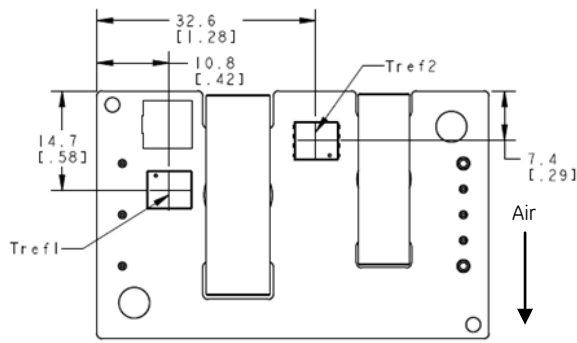

Figure 13. T_{ref} Temperature Measurement Location for open frame version.
To provide protection under certain fault conditions, the unit is equipped with a thermal shutdown circuit. The unit will shutdown if the thermal reference point T_{ref} (Figure 13), exceeds 135°C (typical), but the thermal shutdown is not intended as a guarantee that the unit will survive temperatures beyond its rating. The module will automatically restart upon cool-down to a safe temperature.
The thermal reference points, T_{ref1} , and T_{ref2} used in the specifications for open frame modules are shown in Figure 13. For reliable operation these temperatures should not exceed 124 °C & 124 °C respectively.